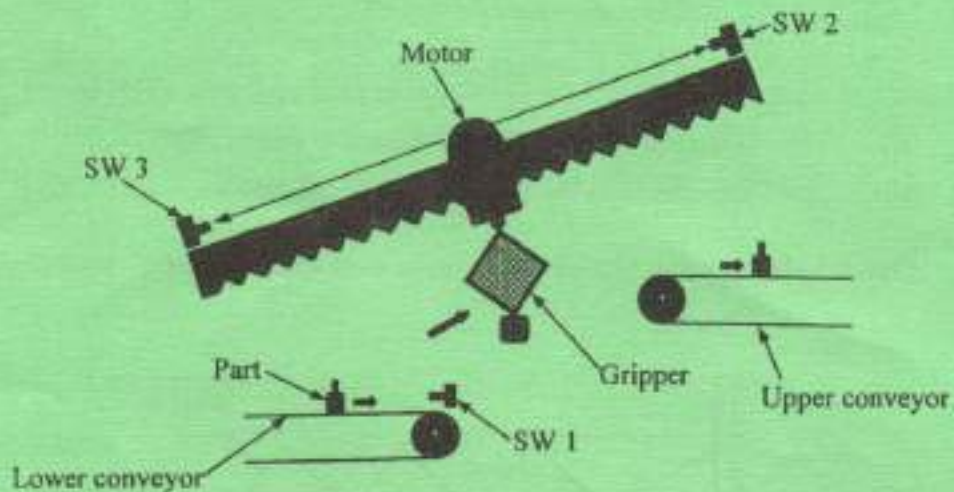

Fig. 3
- (c) Figure 3 shows a pick-and-place robot that picks up parts from one conveyer belt and places them on another belt. When a part moving along the lower conveyer belt activates switch SW_1 , a solenoid-powered gripper picks the part and carries it towards the upper conveyer belt. When the gripper reaches switch SW_2 , it releases the part and moves back to pick another part. When the gripper reaches switch SW_3 , it halts and waits for the next part to start the cycle all over again. Draw a relay logic ladder diagram to control this operation. (8 marks)